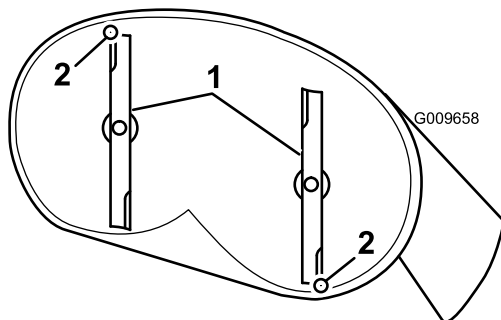
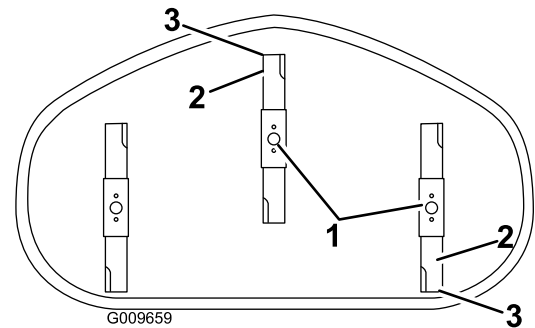

Figure 51
Figure 52
4. Carefully rotate the blades so they are facing front to rear (Figure 51 and Figure 52).
5. Measure from the tip of the front blade to the flat surface and the tip of the rear blade to the flat surface (Figure 51 and Figure 52). If the front blade tip is not 1/16-5/16 inch (1.6-7.9 mm) lower than the rear blade tip, adjust the front locknut.
blade tip is 1/16-5/16 inch (1.6-7.9 mm) lower than the rear blade tip (Figure 51 and Figure 52).